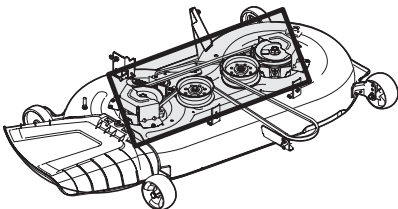

Figure 31
- Clean the top of the tractor deck, under the spindle covers and belt area (Figure 31).